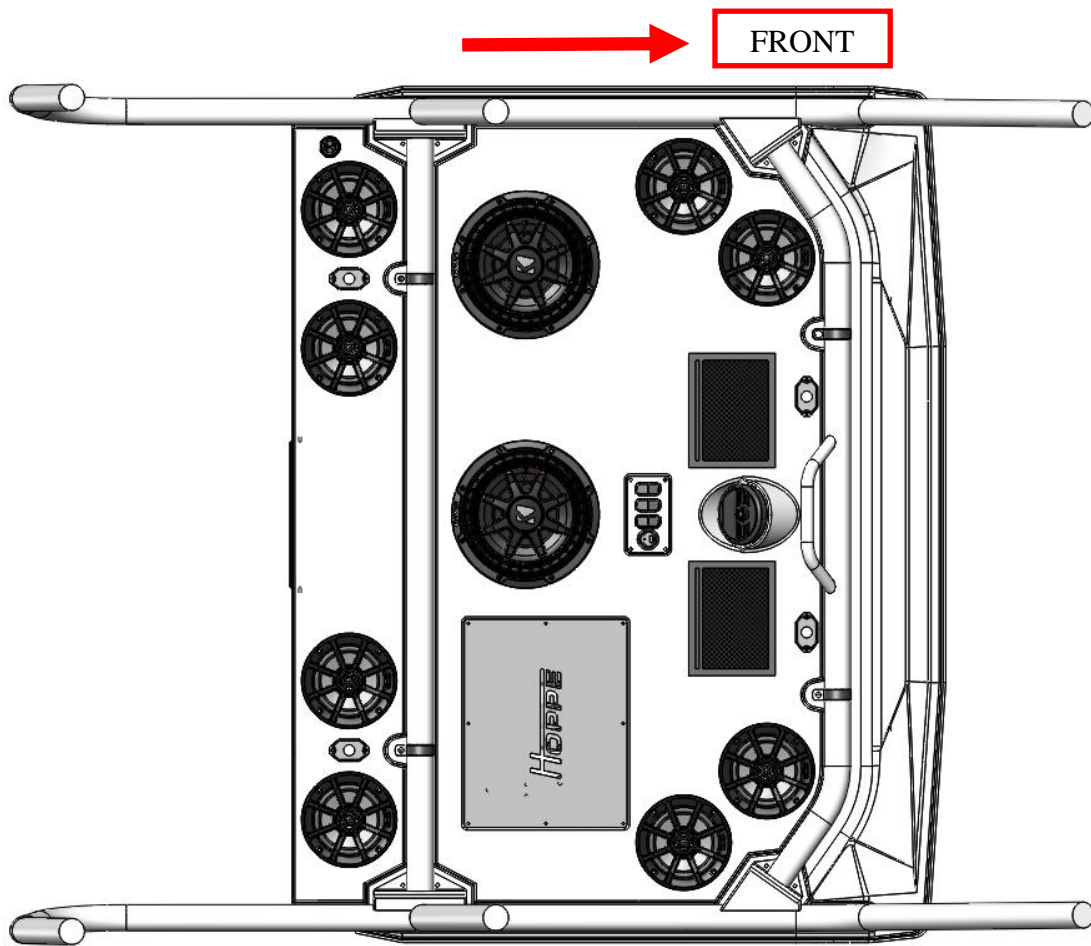

Figure 6: Install the top on the cage.
3. Using a few assistants, set the *Audio Shade* off-road top on the cage. The top is contoured such that the cage fits inside the grooves on the top. **Note: The top weighs up to 125 lbs. depending on your configuration. Since you will have to lift and reach, it is helpful to have up to 4 people for this step.** See Figure 6.